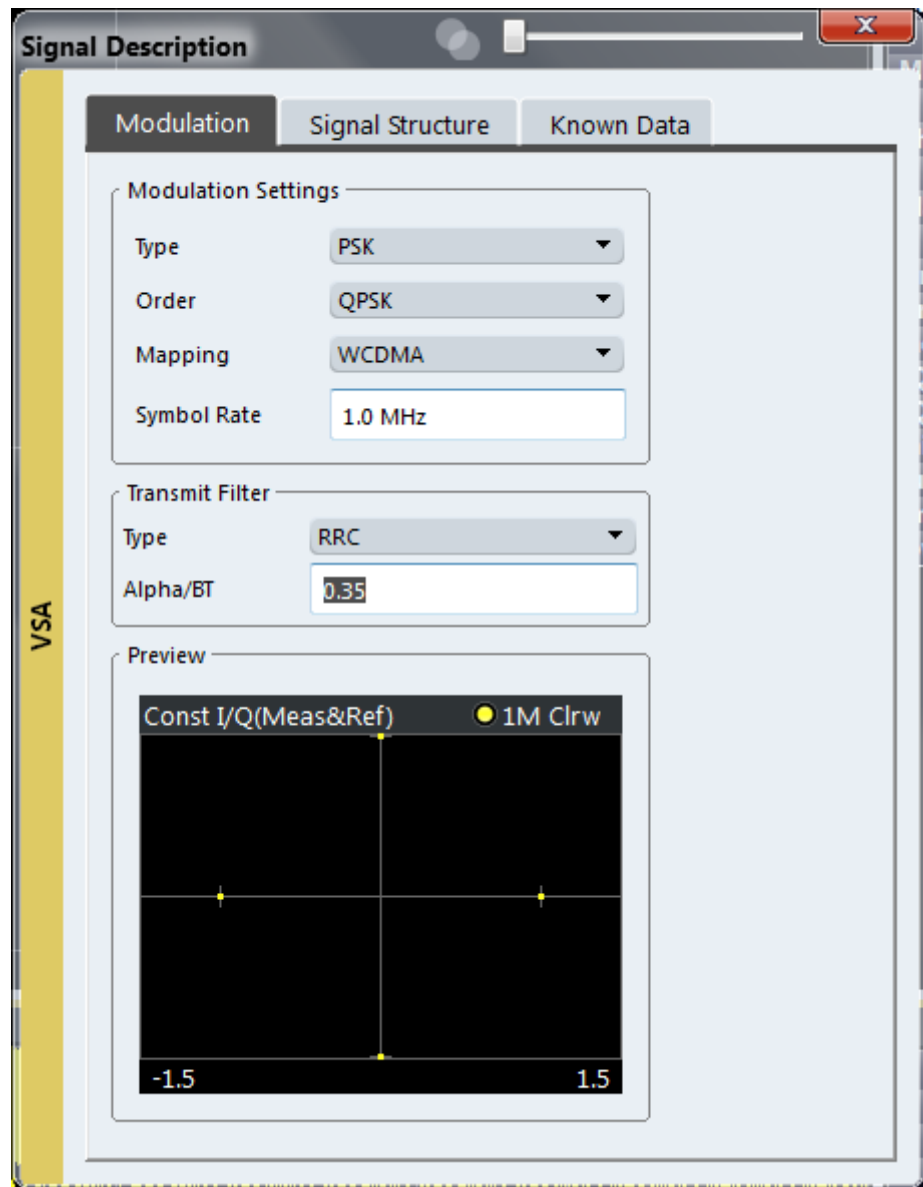

Figure 8-2: QPSK signal with RRC transmit filter
- c) In the "Transmit Filter" section, select "RRC" as "Type" and enter the "Alpha/BT" value 0.35. In the preview area of the dialog you should then see a non-distorted QPSK constellation diagram, as shown in Figure 8-2.